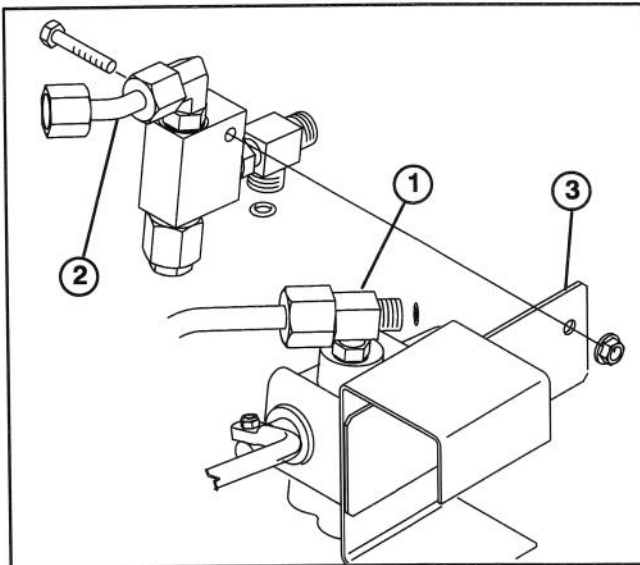

Figure 15
27. Loosely mount other end of hydraulic tube to tee fitting in top port of auxiliary valve (Fig. 15).
28. Mount auxiliary relief valve to valve mount plate with a 1/4–20 x 1–1/2" lg. capscrew and flange locknut (Fig. 15).